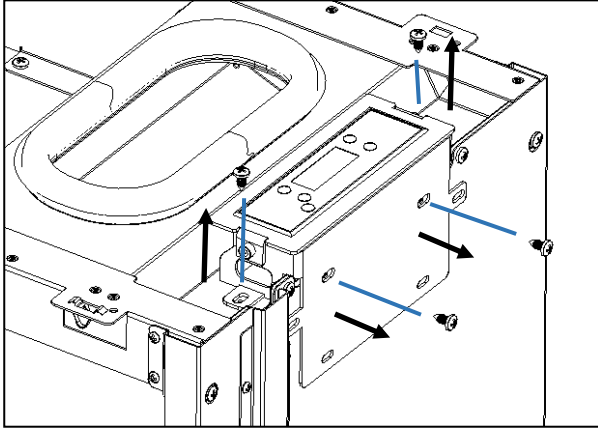

Figure 50 - Removing the display on the machine
a) Before beginning with the assembly of the casings you must remove the display stand from the equipment by loosening the four screws shown in Figure 50.